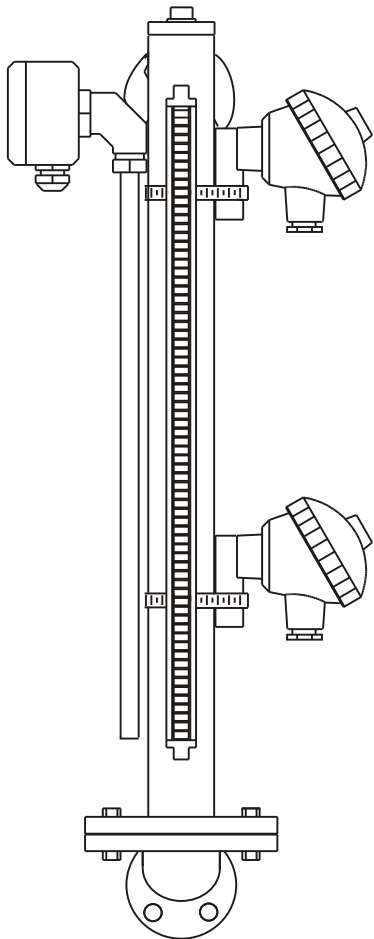
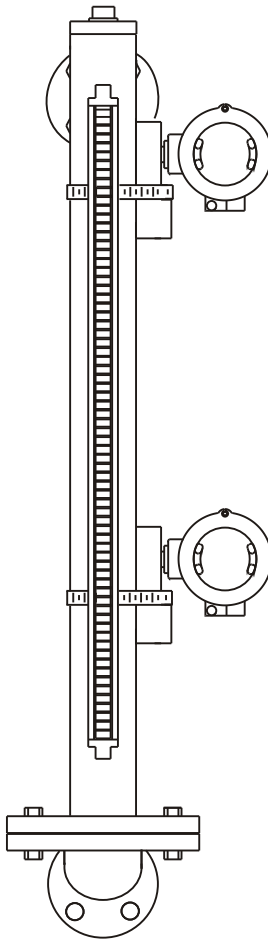
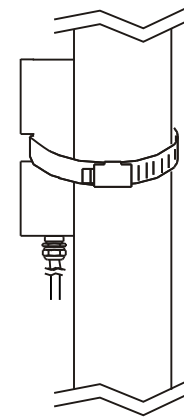

fig. 1
fig. 2
fig. 4
2. The magnetic switch (EFB-12□□ & EFB-13□□) is to be fastened on the chamber with a hose clamp. (see fig.4 and page 18 - fig.1, fig.2) Positioning orientation of magnetic switches as fig.2.